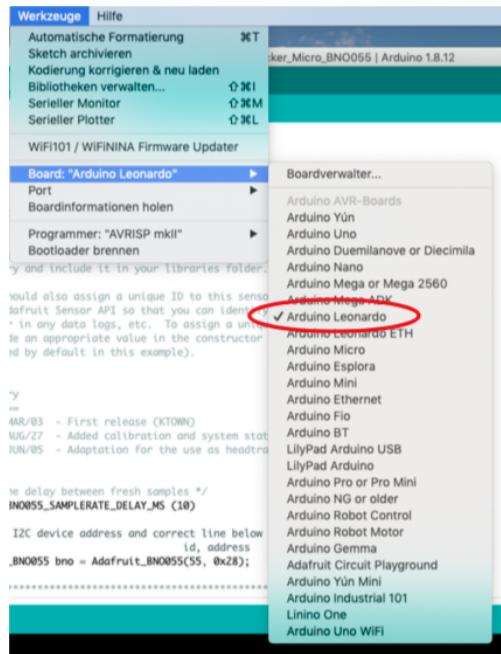

Figure 18: Board selection “(Arduino Leonardo)”
Step 7.3: To program the Arduino Pro Micro, choose the Board “Arduino Leonardo” (Figure 18) in the tools section.